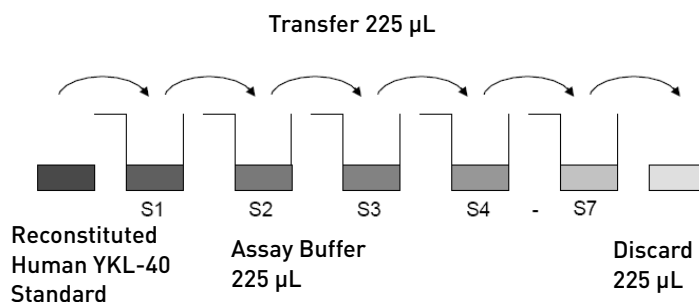

Fig. 7 Dilute standards – tubes
- Repeat serial dilutions 5 more times thus creating the points of the standard curve (see Figure 7).